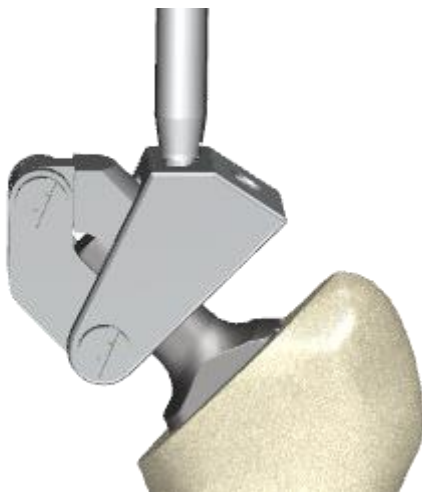

Figure 3: Stem extractor with screwed-in Extractor Bar M8 (detailed view)
- Taking into account the axis of the stem, screw the extraction rod into one of the two drill-holes of the *Stem extractor* until the cone is firmly in position (Figure 3).